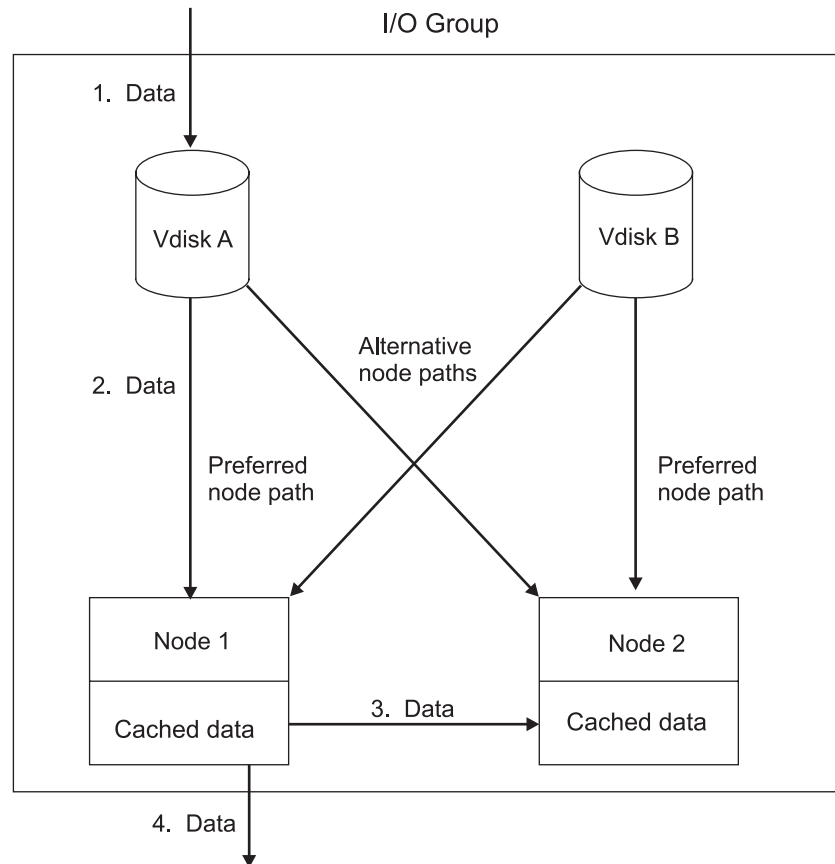

Figure 4. I/O group
Figure 4 on page 15 shows an example I/O group. A write operation from a host is shown (item 1), that is targeted for VDisk A. This write operation is targeted at the preferred node, Node 1 (item 2). The write operation is cached and a copy of the data is made in the partner node, the Node 2 cache (item 3). The write operation is now complete so far as the host is concerned. At some time later the data is written, or de-staged, to storage (item 4).